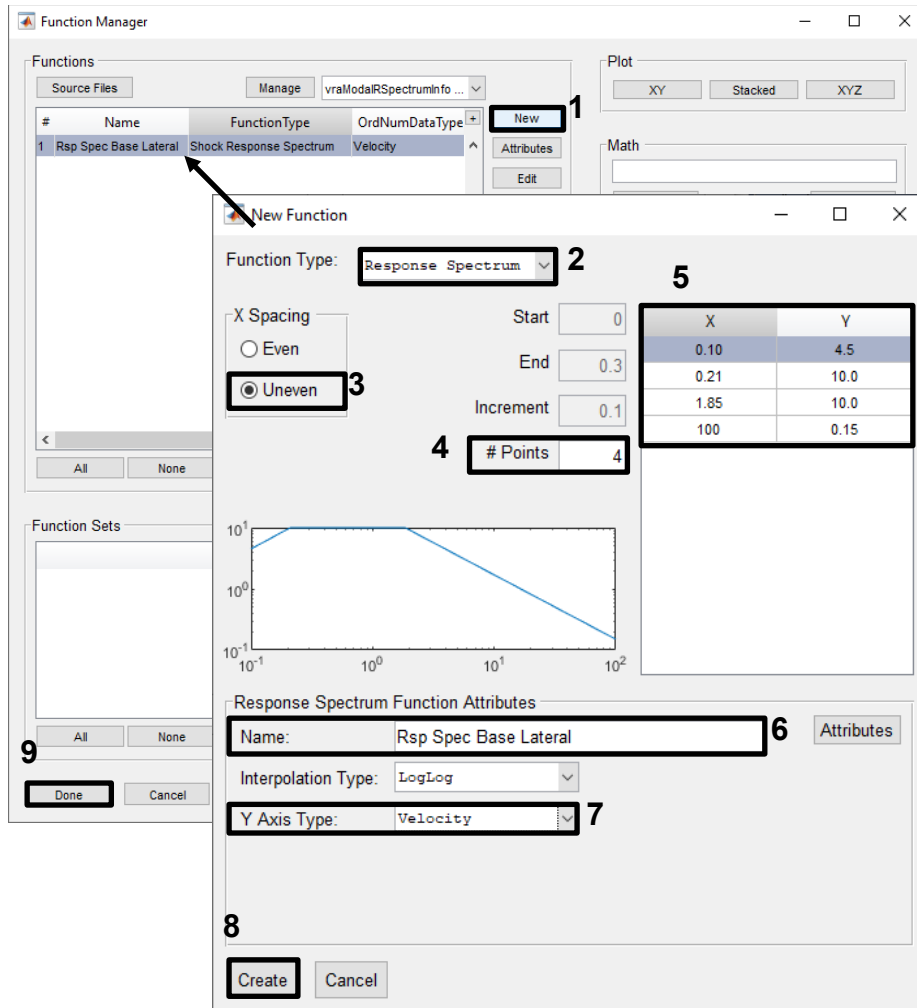
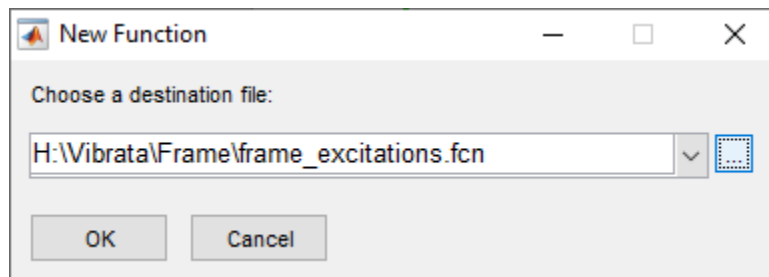

Figure 4-78. Define a Response Spectrum velocity function.
Figure 4-79. Store the new function in the frame excitations file.
5. In the Function Manager, use the Source Files button to open the "frame_excitations.fcn" file from section 4.2.3. (If you have not created that file yet, you will do so here when you finish defining the response spectrum function.) Define a new velocity response spectrum function as shown in Figure 4-78. Click the **Create** button and store the function to "frame_excitations.fcn" (Figure 4-79). Click **Done** on the Function Manager main dialog to return to the Event Manager.